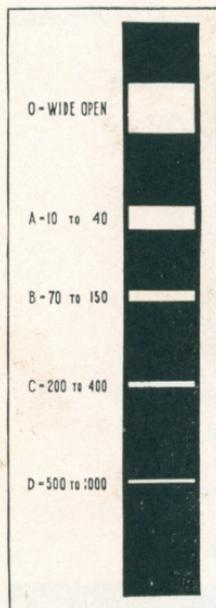

Figure 2
2. The **focal-plane shutter** is a curtain (Figure 2) of special cloth containing five slits of different widths. It is carried on an **upper roller** and winds down across the film and onto a **lower roller** when released by movement of the mirror. (Its action may be observed with the film holder removed from the back of the camera.) The time of exposure is governed by two variables: